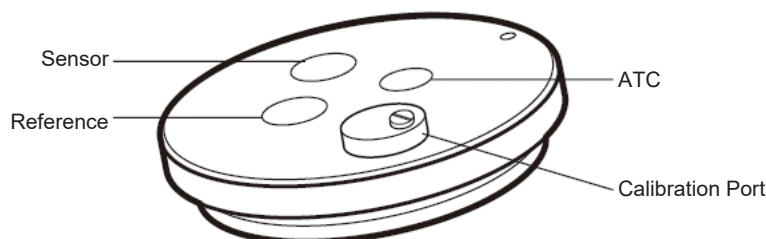

Figure 2.12 Flow Cell Cap
4. Insert the sodium electrode into its port in the flow cell cap. Refer to Figure 2.12 for the location.
1. Insert the ATC probe into its port in the flow cell cap. Refer to Figure 2.12 for the location.
11. Insert the reference electrode into its port in the flow cell cap. Refer Figure 2.12 for the location.